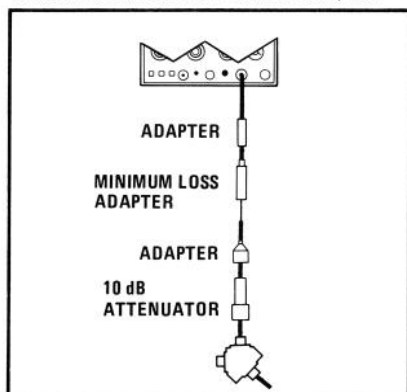

FIGURE 5-4. SLOPE ADJUSTMENT TEST SETUP
2. Connect equipment as shown in Figure 5-4.